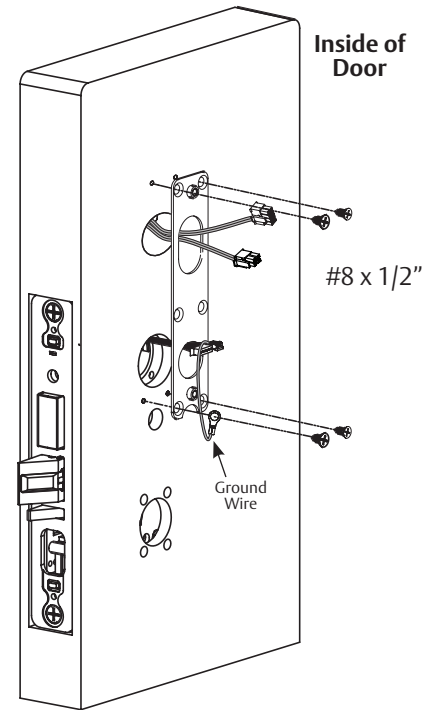

Fig. 5
- a. Attach the mounting plate using two (2) #8 x 1/2" lower screws (Fig. 5). Feed bottom left screw through green/yellow ground wire ring terminal. Install screw. Ensure that green/yellow wire points toward top of door in order to avoid interference with escutcheon.
- b. If fire kit is not being used, install (2) #8 x 1/2" screws in upper mounting plate holes.